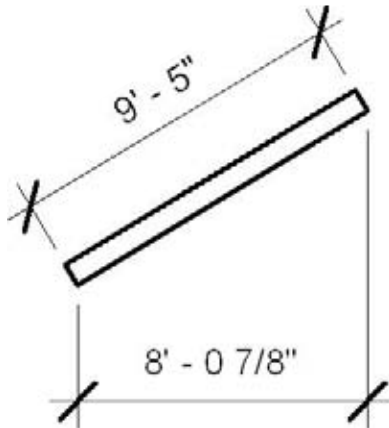

Figure 10.16
**Aligned** Aligned dimensions are the most common dimension style. It places dimensions to elements parallel to the element itself. In the case of an angled wall, the dimension reads parallel to the angled wall (the top dimension in Figure 10.16).
**Linear** Linear dimensions are parallel to the sheet edges. In the case of your angled wall, the dimension is parallel to the bottom of the sheet, as shown in the bottom dimension of Figure 10.16.